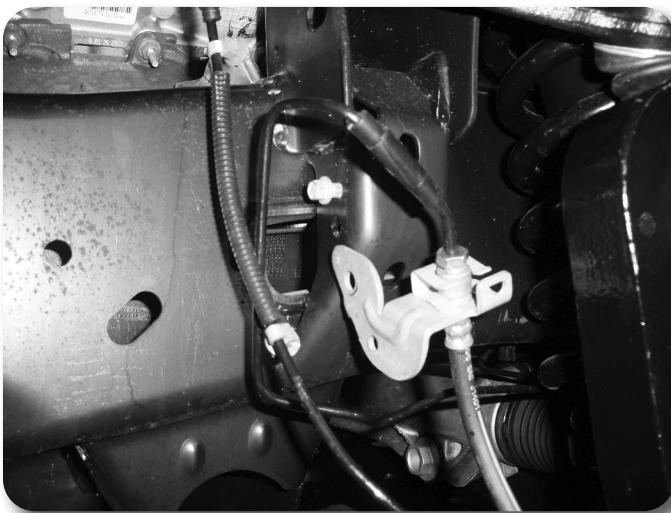

Figure 16
40. Install the brake line relocation brackets at the frame **Figure 16**. Attach with factory hardware to frame, attach brakeline retaining clip with a provided 1/4" nut and washer to the relocation bracket. Tighten to 15 ft-lbs.